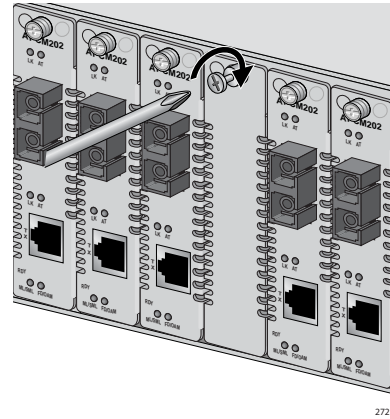

Figure 5. Tightening the Captive Screw on an AT-CV5PNL1
- Use a Phillips screwdriver to tighten the captive screw, as shown in Figure 5.